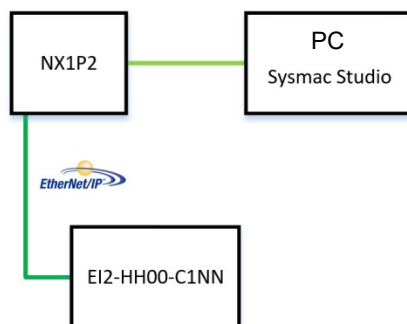

Figure 5-7-27 Communication connection diagram
1. Communication connection diagram, as shown in Figure 5-7-27 Shown